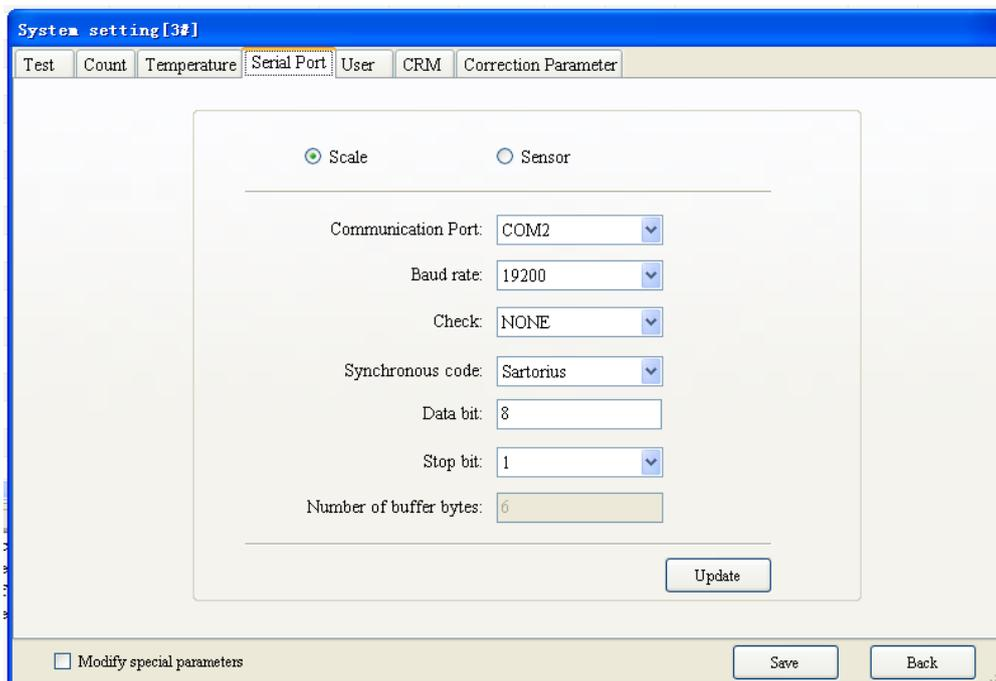

Fig 4-3-5
3. Serial port: Click on option tab “Serial Port” of “system setting” window, the window as Fig. 4-3-5 will popup.